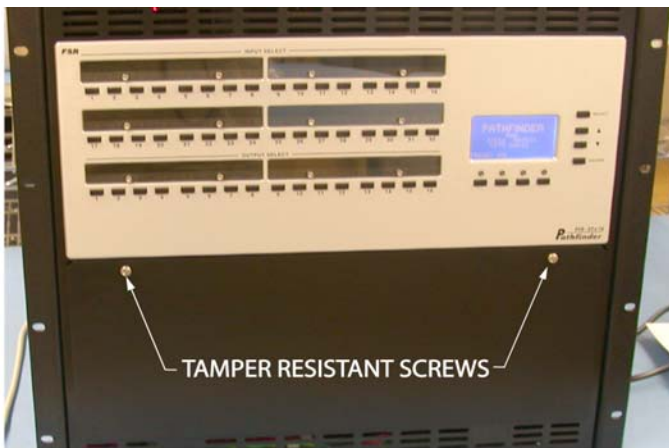

FIGURE 1
- 3) Remove the two tamper resistant screws on the front panel (indicated in figure 1), using the bit included in the replacement power supply kit. The bit should be installed in an appropriate driver handle.